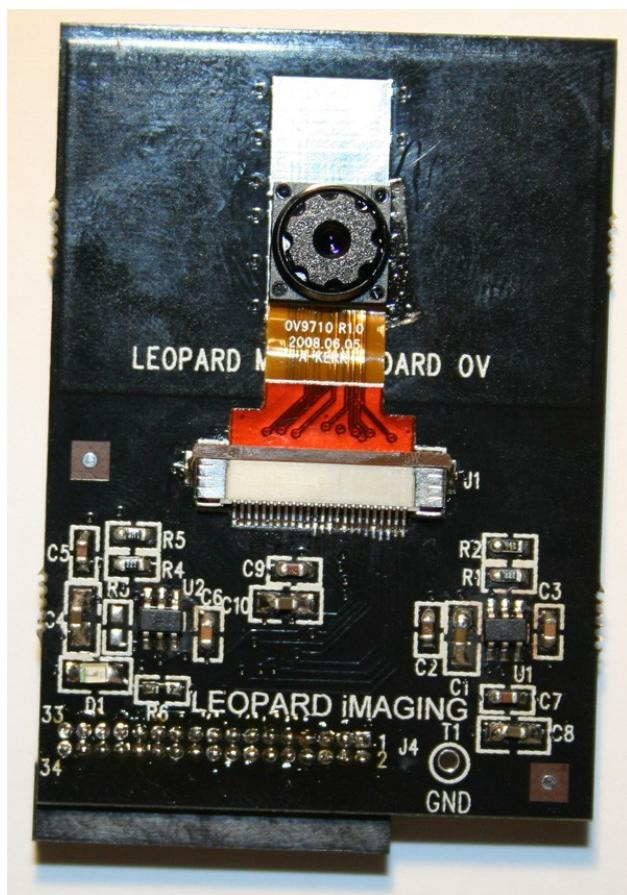

Figure 14. Omni Vision
1.2.5.8 Omni Vision 720p Camera Board, see Figure 14